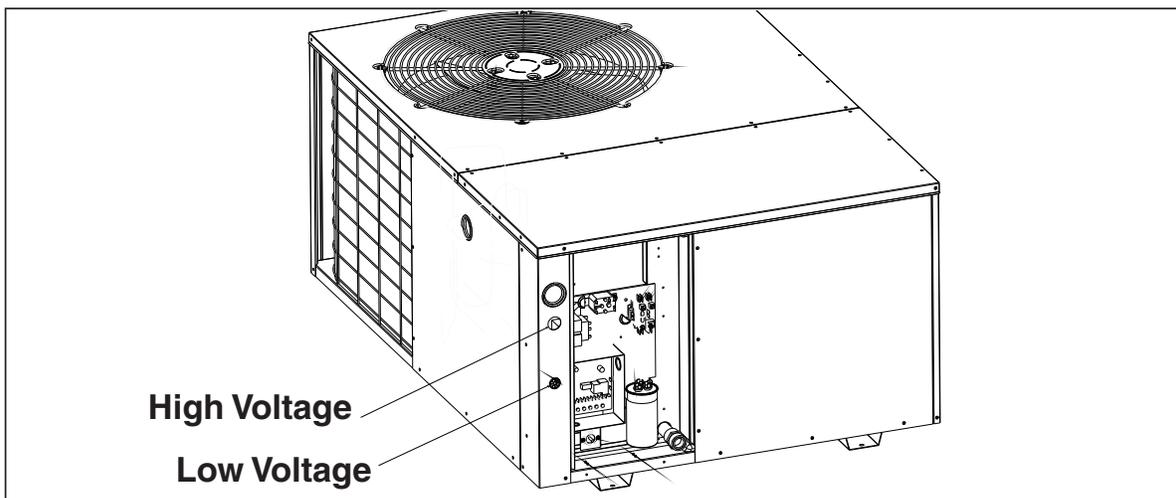

Figure 9. Power Entry
- Extend leads through power wiring hole provided. Connect L1 and L2 directly to the contactor. (See Figure 9.)
- Route 24v control wires through the sealing grommet near the power entrance. (See Figure 9.)